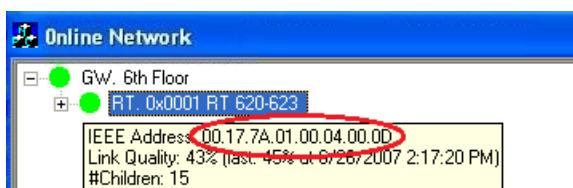

Figure 36
- Complete the **IEEE Address**, which is also found in the **Online Network** tree of SysMon; see example in Figure 36 (hover with the cursor over the concerned node to show information about IEEE address etc).